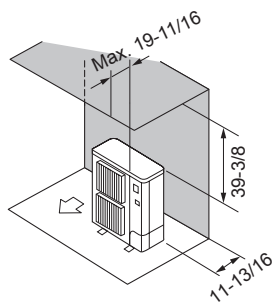

Fig. 2-6
② Obstacles at rear and above (Fig. 2-6)